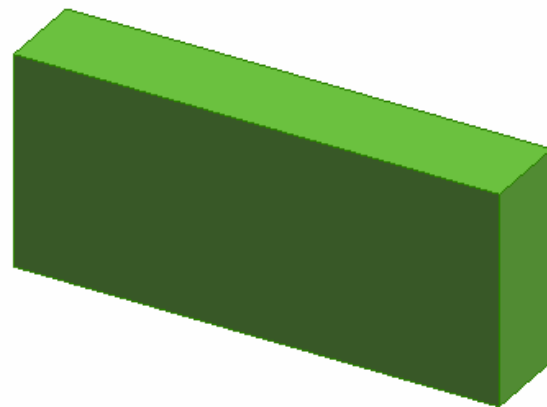

Figure 27. Extruded Clamp Block.
58. Figure 27 shows the completed extrusion.